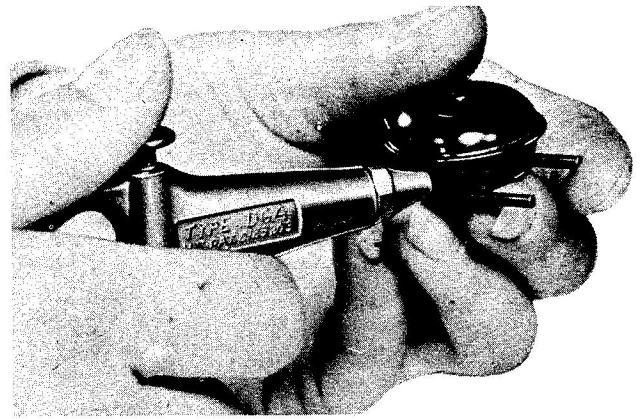

Figure 26 — Repairing Float Leak
(b) If the float does leak, at a soldered joint, fluid will be present inside and the leak will have to be increased in size in order to drain out the fluid. A good way to get the fluid out is shown in figure 26. Punch a very small hole (1, figure 26) and direct air pressure from gun in a line tangent to the circumference of the card at the point of the leak (2). The pressure inside the card will be lowered and the fluid will be drawn out through point (2).